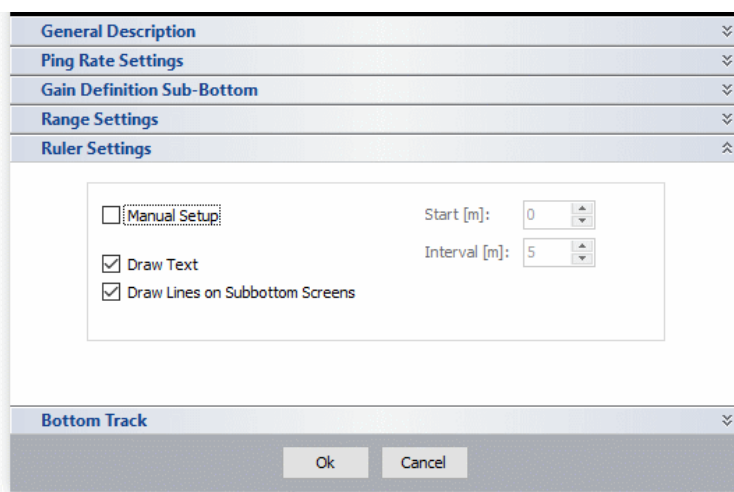

Figure 10: Setup menu, Ruler settings
- **Ruler Settings:** Here you can define the display of lines and text on the screens (Figure 10).